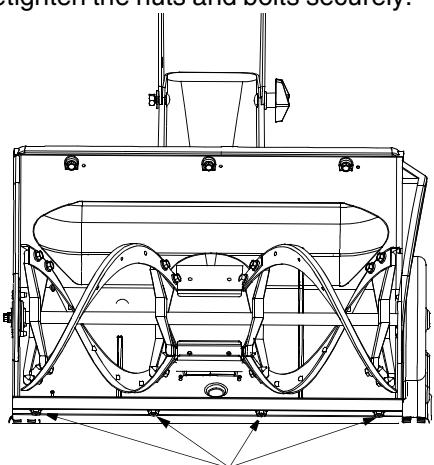

Figure 9
- To adjust, tip the snow thrower back so that it rests on the handle. Loosen the four lock nuts and bolts which secure the shave plate to the housing. See Figure 9. Move the shave plate to desired position and retighten the nuts and bolts securely.